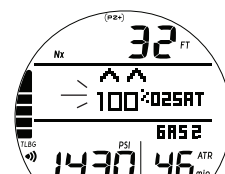

Fig. 68 - O2 ALARM
When O2 reaches 100%, the Audible will sound again during which the O2 value 100 and (2) Up Arrows will flash until on the surface (Fig. 68). *The full TLBG remains on solid as a reminder of Deco.*